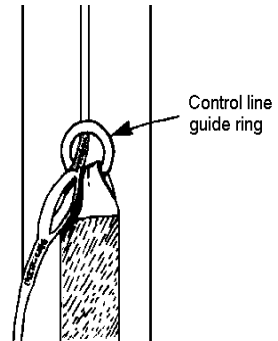

Figure 2
Step 4.) Set the brakes by pulling the control line down through the guide ring until the brake loop “cat-eye” just passes through the guide ring. (See Figure 2.)